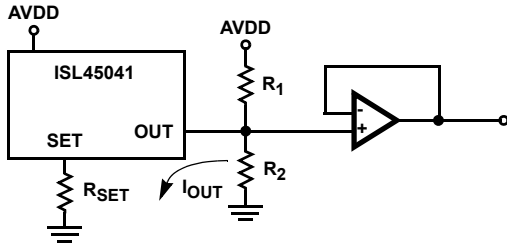
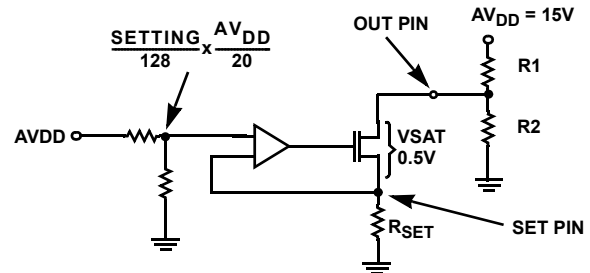

FIGURE 1. OUTPUT CONNECTION CIRCUIT EXAMPLE
FIGURE 2. OUTPUT CONNECTION CIRCUIT EXAMPLE
Electrical Specifications Test Conditions: $V_{DD} = 3.3V$, $AV_{DD} = 18V$, $R_{SET} = 5k\Omega$, $R1 = 10k\Omega$, $R2 = 10k\Omega$; (See Figure 1) Unless Otherwise Specified. Typicals are at $T_A = +25^\circ C$. **Boldface limits apply over the operating temperature range, 0°C to +85°C.**
Electrical Specifications Test Conditions: $V_{DD} = 3.3V$, $AV_{DD} = 18V$, $R_{SET} = 5k\Omega$, $R1 = 10k\Omega$, $R2 = 10k\Omega$; (See Figure 1) Unless Otherwise Specified. Typical values are at $T_A = +25^\circ C$. **Boldface limits apply over the operating temperature range, $0^\circ C$ to $+85^\circ C$.** (Continued)
- A typical Current of 20 μA is Calculated using $AV_{DD} = 10V$ and $R_{SET} = 24.9k\Omega$. Reference "R_{SET} Resistor" in Figure 2.
The external R_{SET} resistor sets the full-scale sink current, I_{SET} maximum, that determines the lowest voltage of the external voltage divider R_1 and R_2 (Figure 1). The voltage difference between the OUT pin and SET pin (Figure 2), which are also the drain and source of the output transistor, must be greater than 1.75V. This will keep the output transistor in its saturation region to maintain linear operation over the full range of register values. Expected current settings and 7-bit accuracy occurs when the output MOS transistor is operating in the saturation region. Figure 2 shows the internal connection for the output MOS transistor. The value of the AV_{DD} supply sets the voltage at the source of the output transistor. This voltage is equal to $(\text{Setting}/128) \times (AV_{DD}/20)$. The I_{SET} current is therefore equal to $(\text{Setting}/128) \times (AV_{DD}/20 \times R_{SET})$. The drain voltage is calculated using Equation 2. The values of R_1 and R_2 (Equation 2) should be determined using I_{OUT} maximum (setting equal to 128) so the minimum value of V_{OUT} is greater than $1.75V + AV_{DD}/20$.